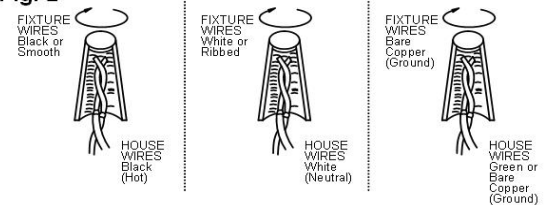

Fig.3
7. Align back plate (N) onto mounting plate (C) and secure with the rubber washers (K) and cap nuts (L).
8. Separate lamp body (P) from top cover (M) by unscrewing the mounting screws (Q). Align the glass (Q) into body (P) and secure with glass clips (S).
9. Re-attach body (P) to the top cover (M) with mounting screws (Q).
10. To prevent moisture from entering the outlet box and causing a short, use clear caulking (i.e. Indoor/Outdoor Silicone Sealant) to outline the outside off fixture back-plate where it meets the wall leaving a space at bottom to allow moisture a means to escape (Fig 3).